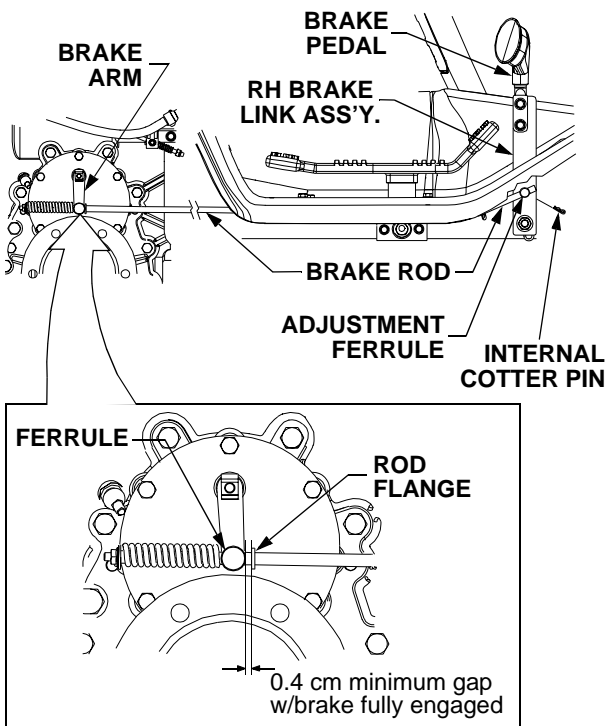

Figure 32
- From the right/rear side of the tractor, check the gap between the flange of the brake rod and the ferrule connected to the transmission brake arm. The gap should be a minimum of 0.4 cm. See Figure 32.
- Remove the internal cotter pin and disengage the adjustment ferrule at the front of the brake rod from the brake link. See Figure 32.